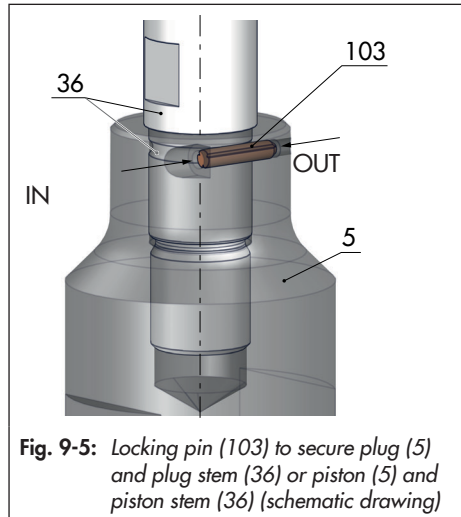

Fig. 9-5: Locking pin (103) to secure plug (5) and plug stem (36) or piston (5) and piston stem (36) (schematic drawing)
The plug/piston and plug/piston stem are fastened together. To prevent the plug/piston from becoming unintentionally detached from the plug/piston stem, the connection is additionally secured by a tangentially inserted pin (see Fig. 9-5). To replace the plug/piston, proceed as follows:
1. Firmly clamp the plug/piston (5) into a vise.
2. Use a suitable tool (mandrel) to drive the locking pin (103) out of the plug or piston in the "OUT" direction (see Fig. 9-5).
3. Unscrew the plug/piston stem (36) from the plug or piston (5) using a suitable tool.
5. Firmly clamp the new plug/piston (5) into a vise using protective jaws. Make sure that the plug/piston is not damaged by the vise.
6. Screw the plug/piston stem (36) into the plug or piston (5) and tighten using a suitable tool. Observe tightening torque.
7. Insert a new locking pin (103) into the hole in the plug or piston in the "IN" direction. Use a suitable tool (mandrel) to drive the pin in as far as it will go.